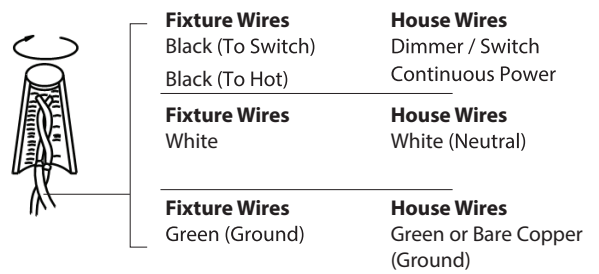

FIG.3
4. On the base plate, rotate the 2 tension clips and swing the LED Board downward to reveal the rest of the electronics (See FIG. 3).